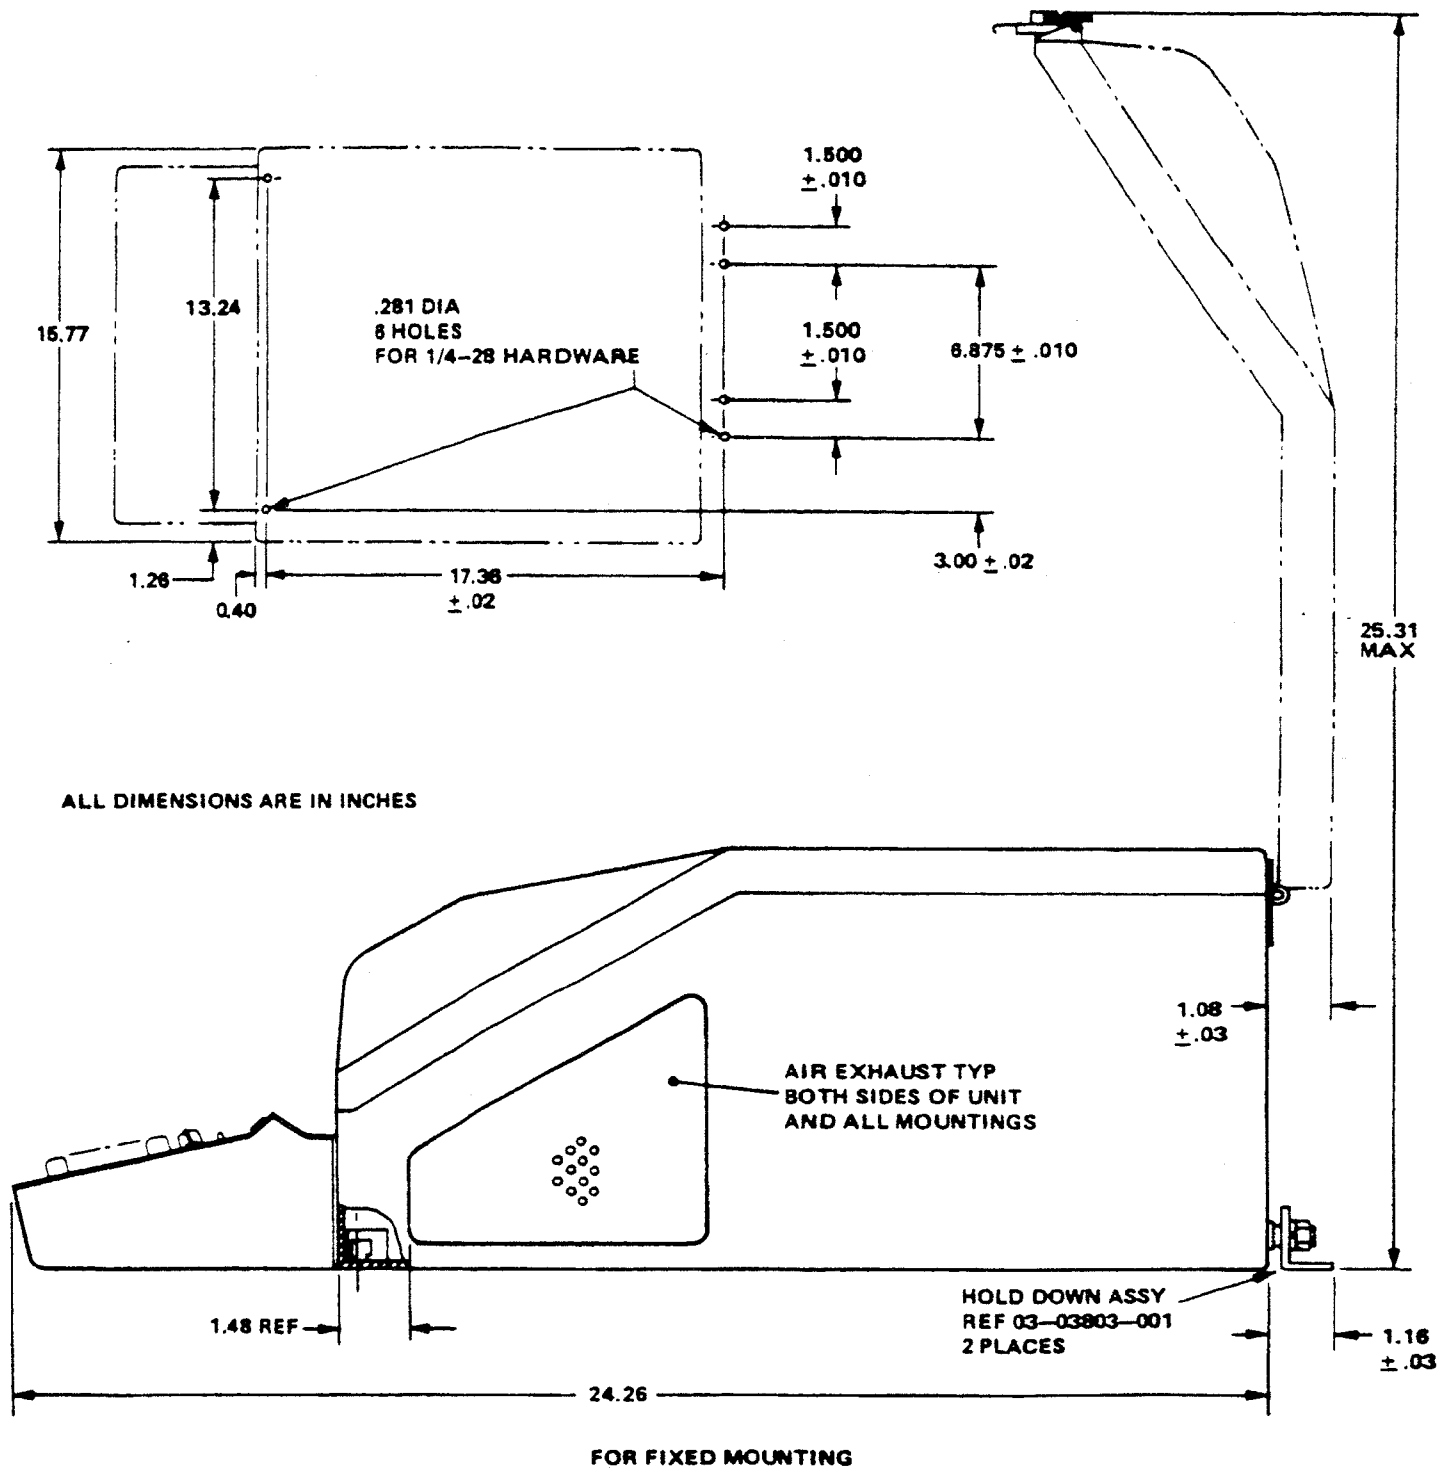

Figure 8-2. Keyboard-Printer, Installation Drawing
- a. Place the Keyboard-Printer on a sliding drawer in a standard 19-inch rack. See figure 8-2.
- b. Attach Keyboard-Printer using 1/4-28 bolts of sufficient length to secure the front of the Keyboard-Printer to the drawer. The bolts should contain 1/4-inch flat washers and be inserted through the Keyboard-Printer (figure 8-2) into the two holes located on the bottom of the drawer. Fasten using 1/4-28 nuts.